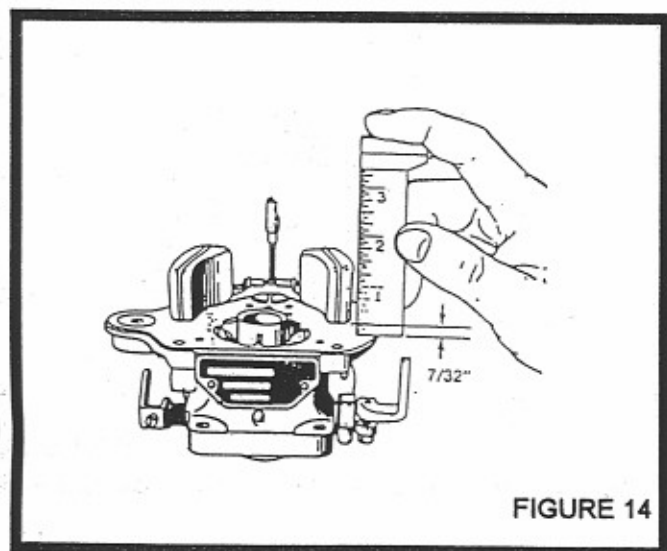
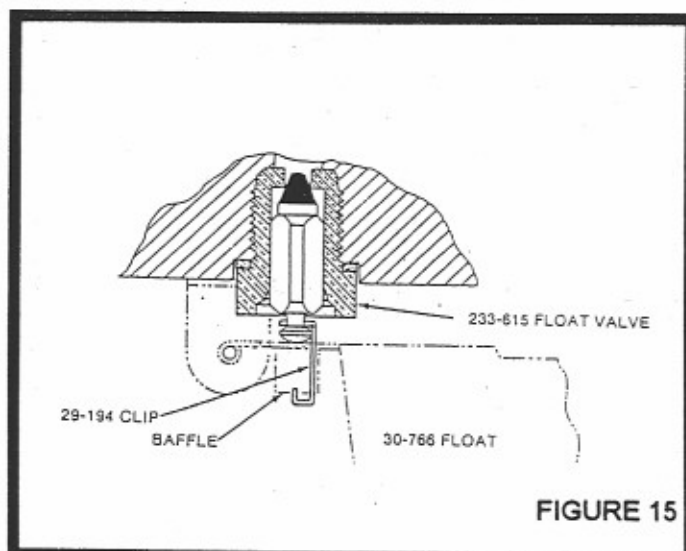

FIGURE 14
FIGURE 15
- 55) Place the float, valve, and clip assembly into the float bracket (64) with the valve (7) in the float valve seat (27) (Reference Figure 15).
- 56) Insert the float lever shaft (4) through the float bracket and float lever hinge and safety in place with cotter pin (3). Bend the ends of the pin all the way back.
- 57) **CAUTION:** Insure that the float shaft is free to rotate and that the float and valve movement is not restricted between the fully open and fully closed position of the float valve. This is approximately 1/2-inch of float travel measured at outer end of float. The float setting is established as shown in Figure 14 with 7/32" clearance between the float and gasket measured near the outer end of each float.